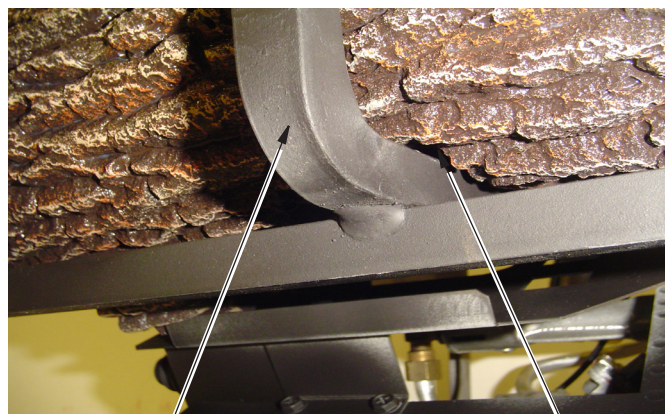
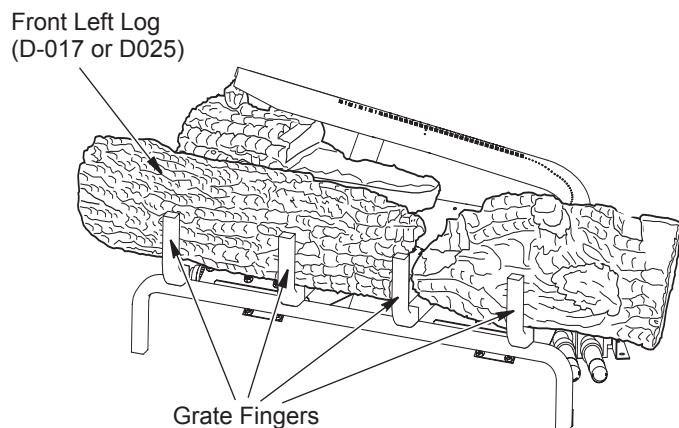

Figure 19A - Installing Front Left Log Side View
Figure 19 - Installing Front Left Log
3. Find the front left log (LMF42-SC: D017 or LMF48-SC: D025). See Figures 19, 19A, and 19B. The log has a rectangular stand off on the bottom that fits against the lip on the black metal base as shown in figure 19A. The bottom of this log has a slot that fits over the second bar on the grate as shown in Figure 19B. Place the log on the base assembly as shown in figures.